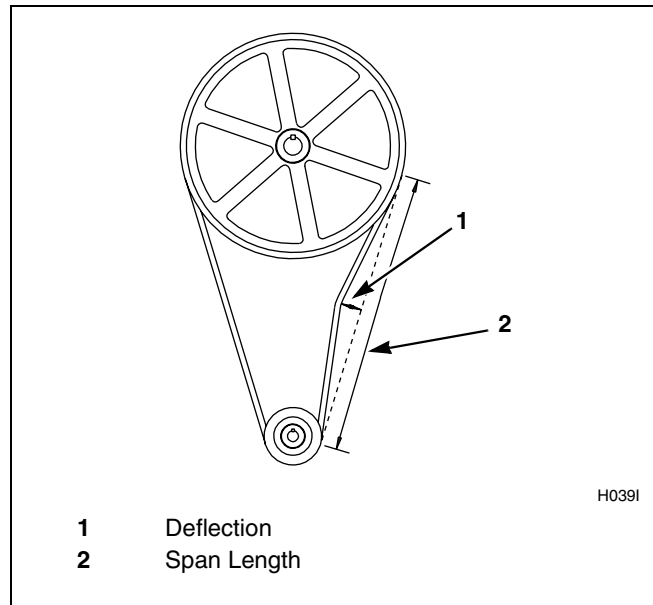

Figure 10
d. For variable-speed models only, verify that V-belts are properly tensioned by applying a set force to the belts and measuring the deflection to determine the belt tension. Refer to *Table 4* for the acceptable belt's tension ranges. Belt tension measurements should be taken as close to the center of the belt span as possible. Refer to *Figure 10*.